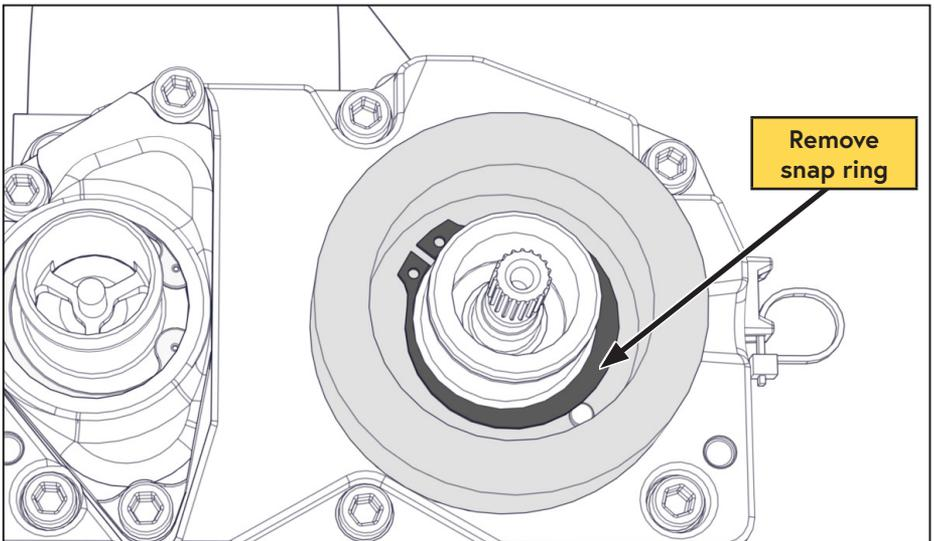

Figure 6 — Remove lower snap ring
- Remove the lower snap ring securing the field coil assembly (Figure 6).